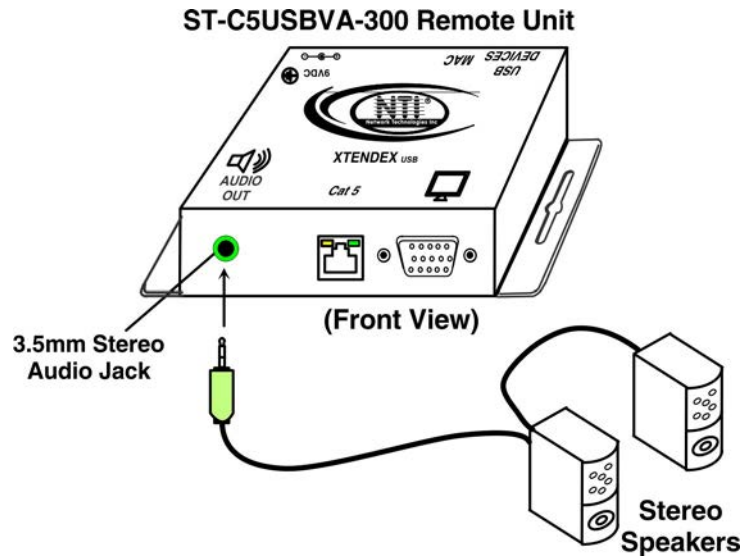

Figure 6- Connect remote self-powered speakers to Remote Unit
- If the Remote Unit has audio support (ST-C5USBVA-300), connect the cable from the remote self-powered stereo speakers to the 3.5mm stereo audio "AUDIO OUT" jack on the Remote Unit. (See Figure 6)